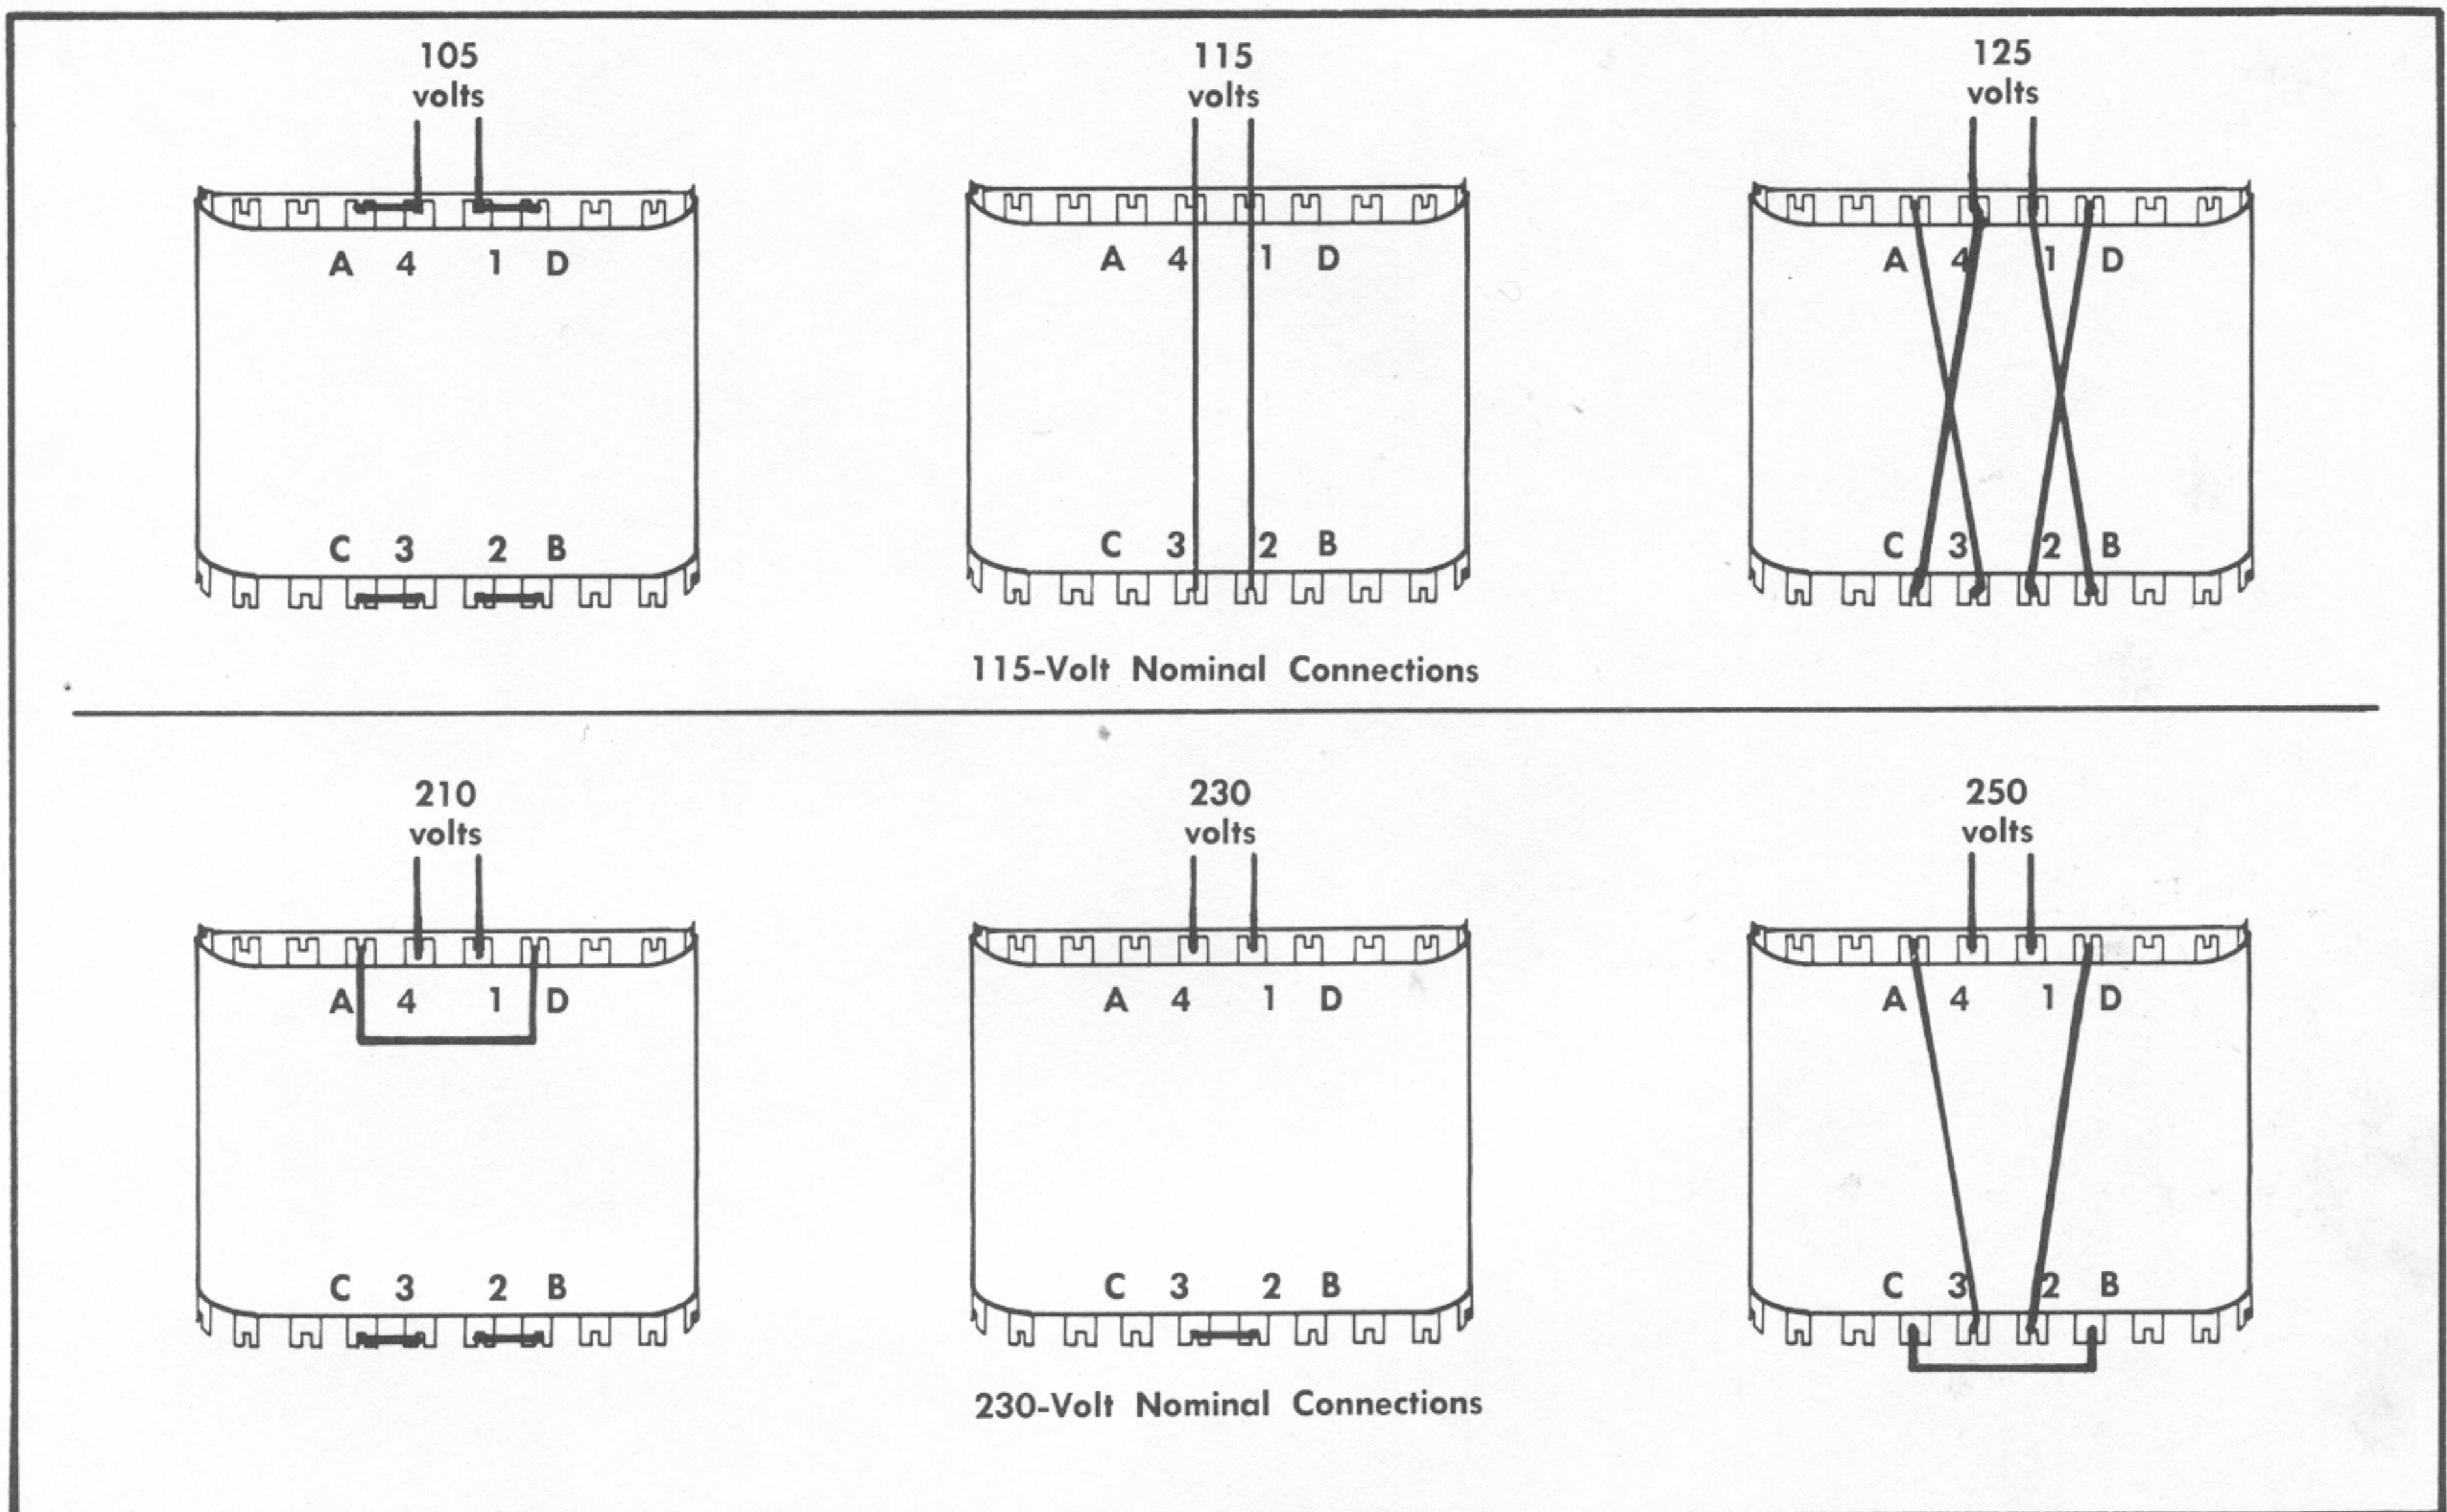

Fig. 2-3. Power transformer primary connections.
1. Connect the transformer for the desired line voltage as shown in Fig. 2-3.